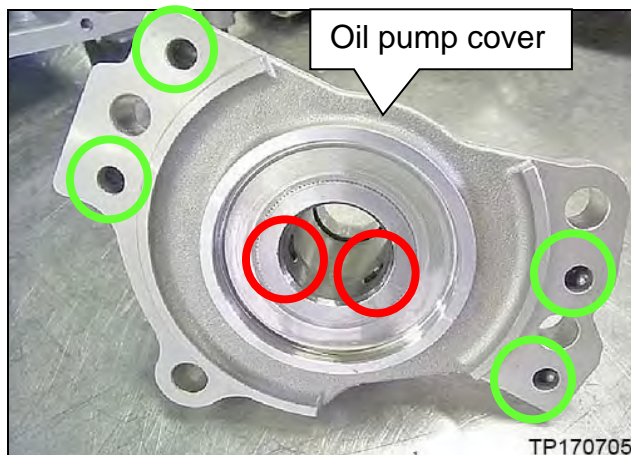

Figure 11L
- d. Spray brake cleaner into the oil pump cover oil passages indicated in green shown in Figure 11L.
CAUTION: Do not face the passage indicated in red in Figures 11L and 12L while cleaning.